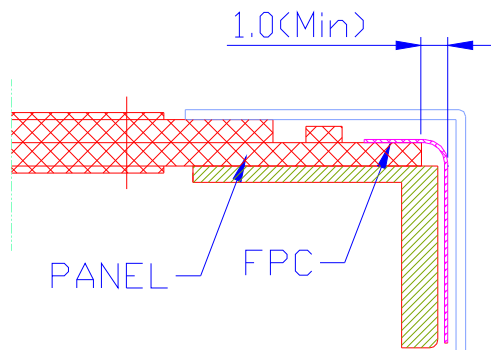

Figure 14-2
- e) After combining the plastic frame with the top chassis,user must reserve enough space to FPC to avoid FPC damage due to lack of space Figure 14-2.